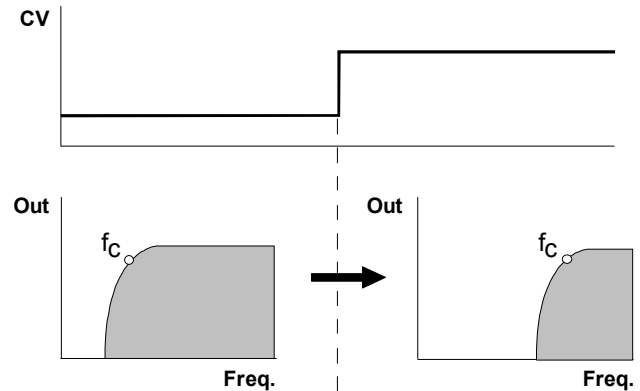

Fig. 1: White noise put through a high pass filter
At zero, the filter is fully open. The more you turn the filter up, the more the low frequencies are filtered (see Fig. 1): the sound becomes thinner and less solid, until at 10 the filter is completely shut, and blocks off all frequencies below 15kHz. Frequencies above 15kHz are still let through, but are generally outside normal adult hearing range.
③ FCV
For voltage control or modulation of the cut-off frequency using CV input ⑥ (see Fig. 1), use attenuator ③ to control the **level of voltage control**.